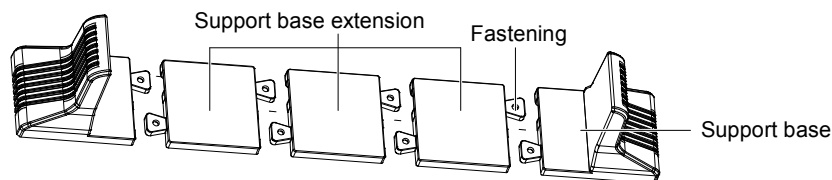

Figure 2-2 Installing support base with support base extension (front view)
2. If battery module installation is necessary, take out a support base extension delivered with the battery module, and then assemble the support base extension and the support bases through fastenings, as shown in Figure 2-2.